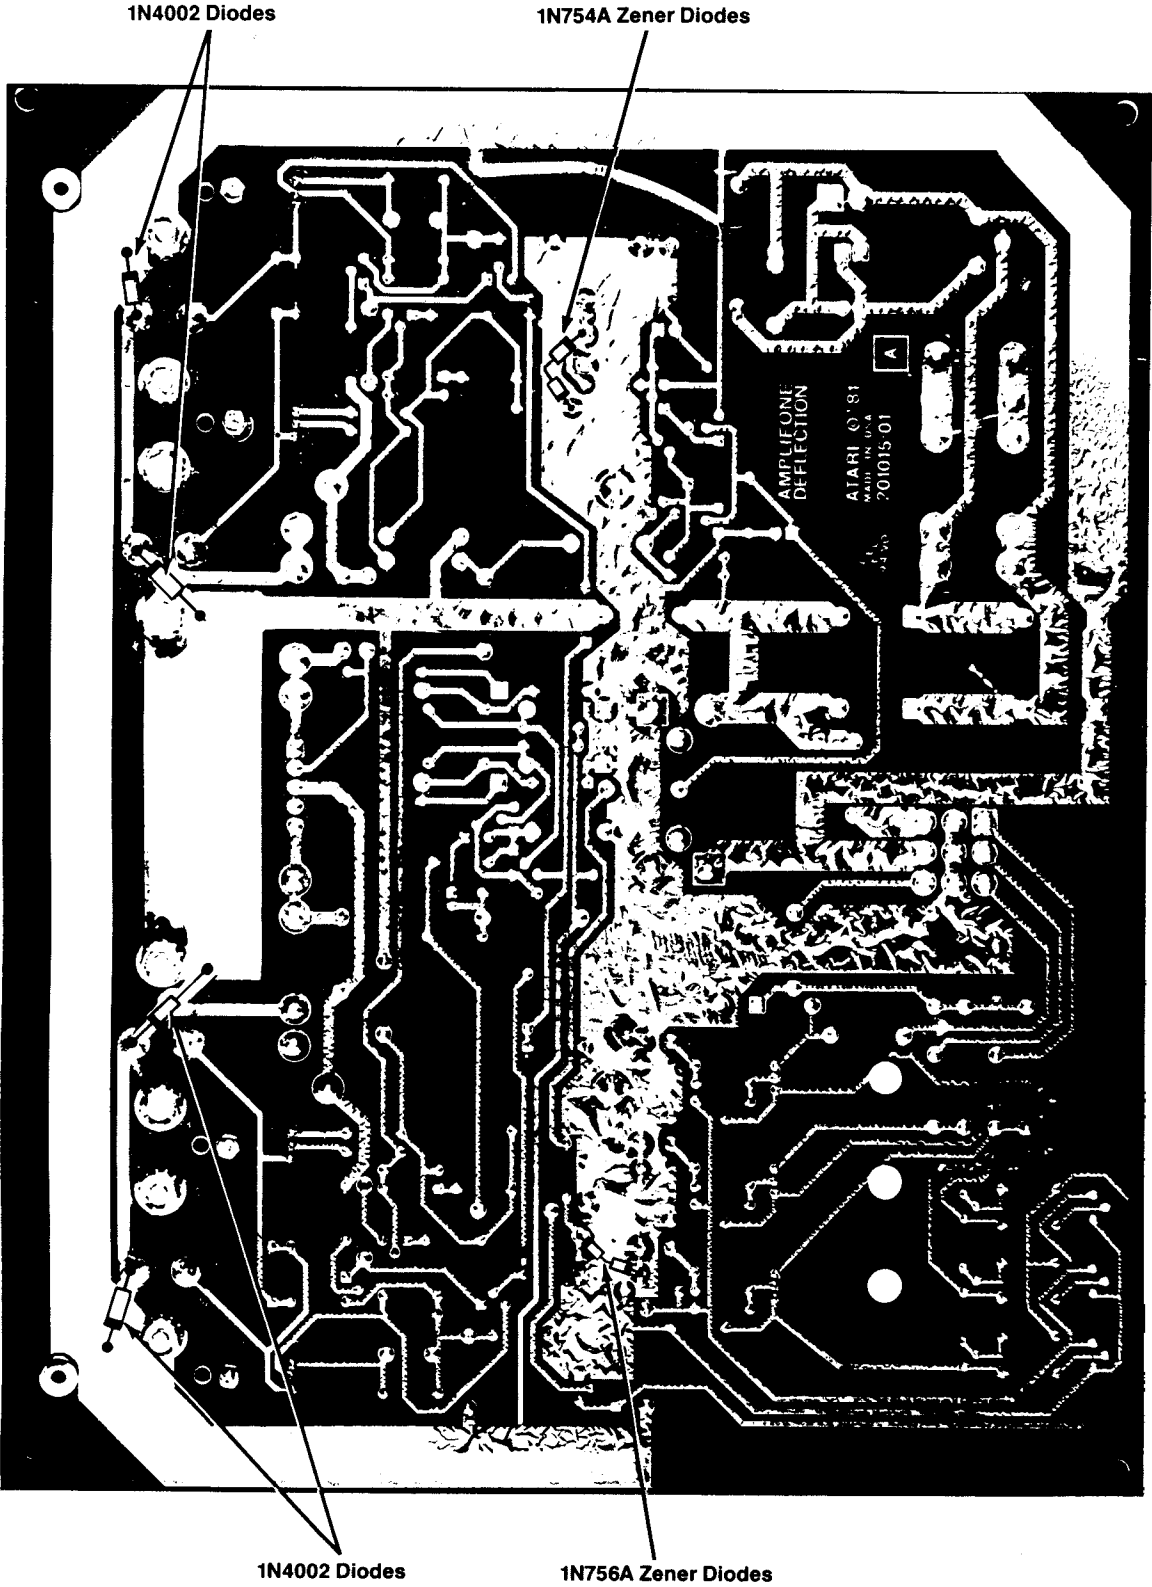

Figure 8 Modifying the Amplifone Deflection PCB
Perform the following procedure to modify the Amplifone Deflection PCB (see Figure 8).
5. Solder one cathode lead of the two type-1N754A Zener diodes (soldered together in step 2) to the yellow wire on the soldered side of the Deflection PCB as shown in Figure 8.
6. Solder the other cathode lead of the two type-1N754A Zener diodes to the nearest ground on the PCB as shown in Figure 8.
8. Solder one cathode lead of the two type-1N756A Zener diodes (soldered together in step 3) to the orange wire on the soldered side of the Deflection PCB as shown in Figure 8.
9. Solder the other cathode lead of the two type-1N756A Zener diodes to the nearest ground on the PCB as shown in Figure 8.
10. On the soldered side of the Deflection PCB, solder the cathode lead of a type-1N4002 diode to the emitter of transistor Q17 as shown in Figure 8.
11. Scrape away the green protective coating at a convenient point on the PCB, and solder the anode lead of the type-1N4002 diode to the collector of transistor Q17 as shown in Figure 8.
12. On the soldered side of the Deflection PCB, solder the anode lead of a type-1N4002 diode to the emitter of transistor Q16 as shown in Figure 8.
13. Scrape away the green protective coating at a convenient point on the PCB and solder the cathode lead of the type-1N4002 diode to the collector of transistor Q16 as shown in Figure 8.
14. On the soldered side of the Deflection PCB, solder the cathode lead of a type-1N4002 diode to the emitter of transistor Q7 as shown in Figure 8.
15. Scrape away the green protective coating at a convenient point on the PCB and solder the anode lead of the type-1N4002 diode to the collector of transistor Q7 as shown in Figure 8.
16. On the soldered side of the Deflection PCB, solder the anode lead of a type-1N4002 diode to the emitter of transistor Q6 as shown in Figure 8.
17. Scrape away the green protective coating at a convenient point on the PCB and solder the cathode lead of the type-1N4002 diode to the collector of transistor Q6 as shown in Figure 8.